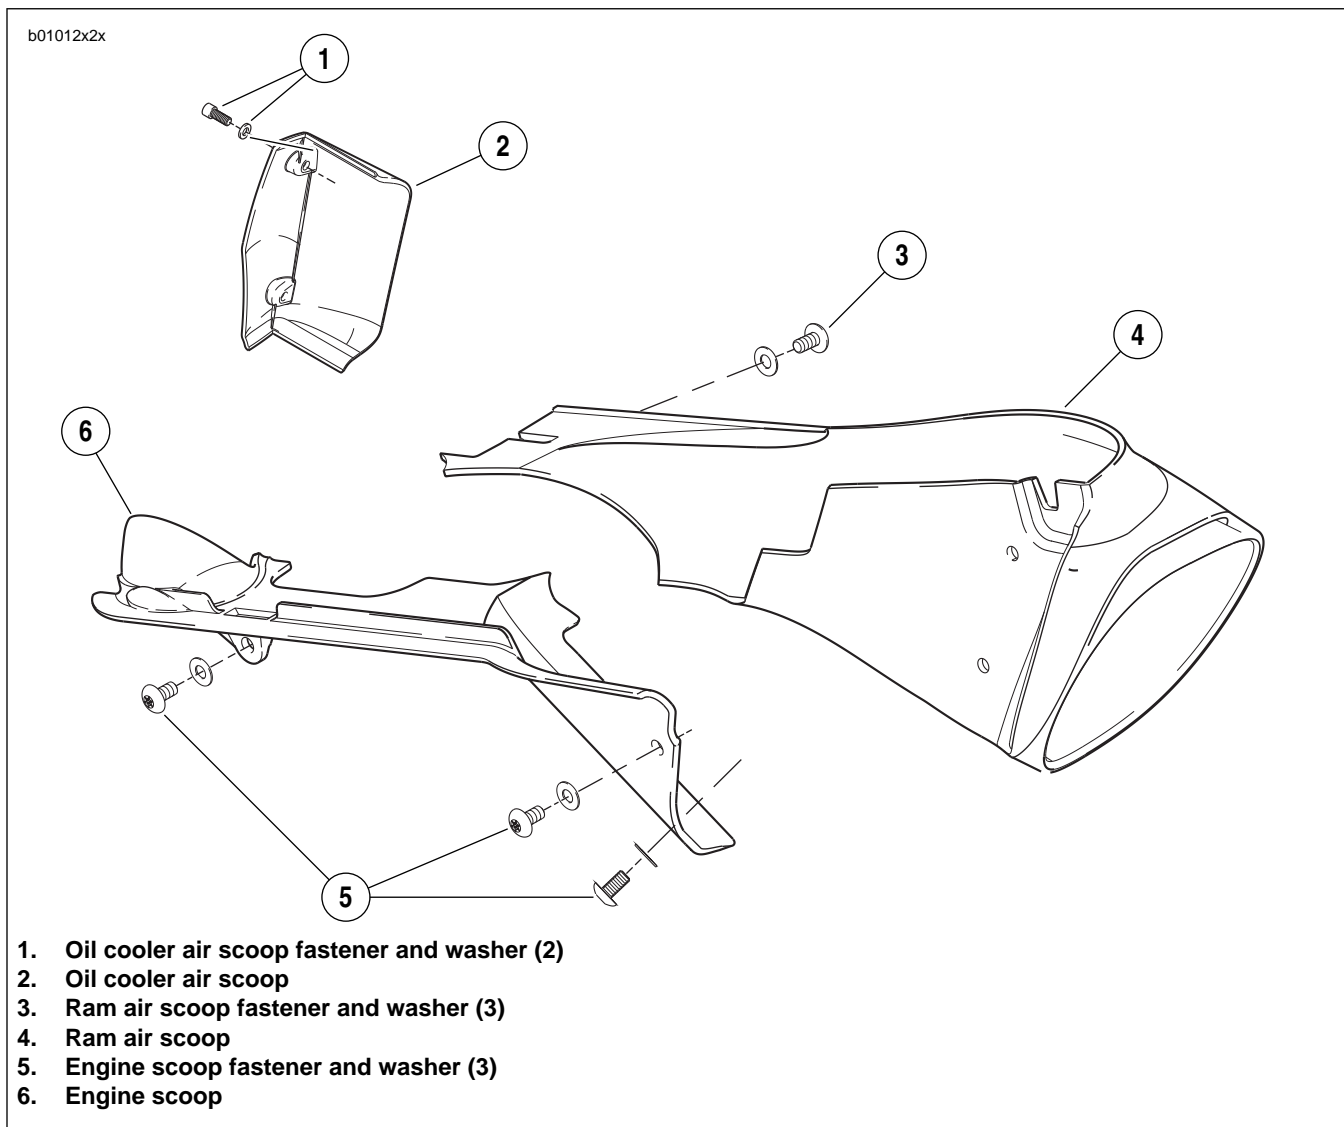

Figure 2-127. RAM Air Scoop, Engine Shroud, Oil Cooler
1. See Figure 2-127. On left side of bike, locate ram air scoop (4).
2. Remove three ram air scoop fasteners (3).
3. Remove ram air scoop (4).
1. See Figure 2-127. Position ram air scoop (4).
2. Install ram air scoop (4) with three fasteners (3). Tighten to 12-36 **in-lbs** (1-4 Nm).
1. See Figure 2-127. On right side of bike, locate engine shroud air scoop (6).
2. Remove three engine shroud air scoop fasteners (5).
3. Remove engine shroud air scoop (6).
1. See Figure 2-127. Position engine shroud air scoop (6).
2. Install engine shroud air scoop (6) with three fasteners (5). Tighten to 12-36 **in-lbs** (1-4 Nm).
1. See Figure 2-127. On left side of bike, locate oil cooler air scoop (2).
2. Remove two oil cooler air scoop fasteners (1).
3. Remove oil cooler air scoop (2).
1. See Figure 2-127. Position oil cooler air scoop (2).
2. Apply LOCTITE 272 (red) to oil cooler air scoop fasteners (1) and tighten to 48-72 **in-lbs** (5.4-8.0 Nm).